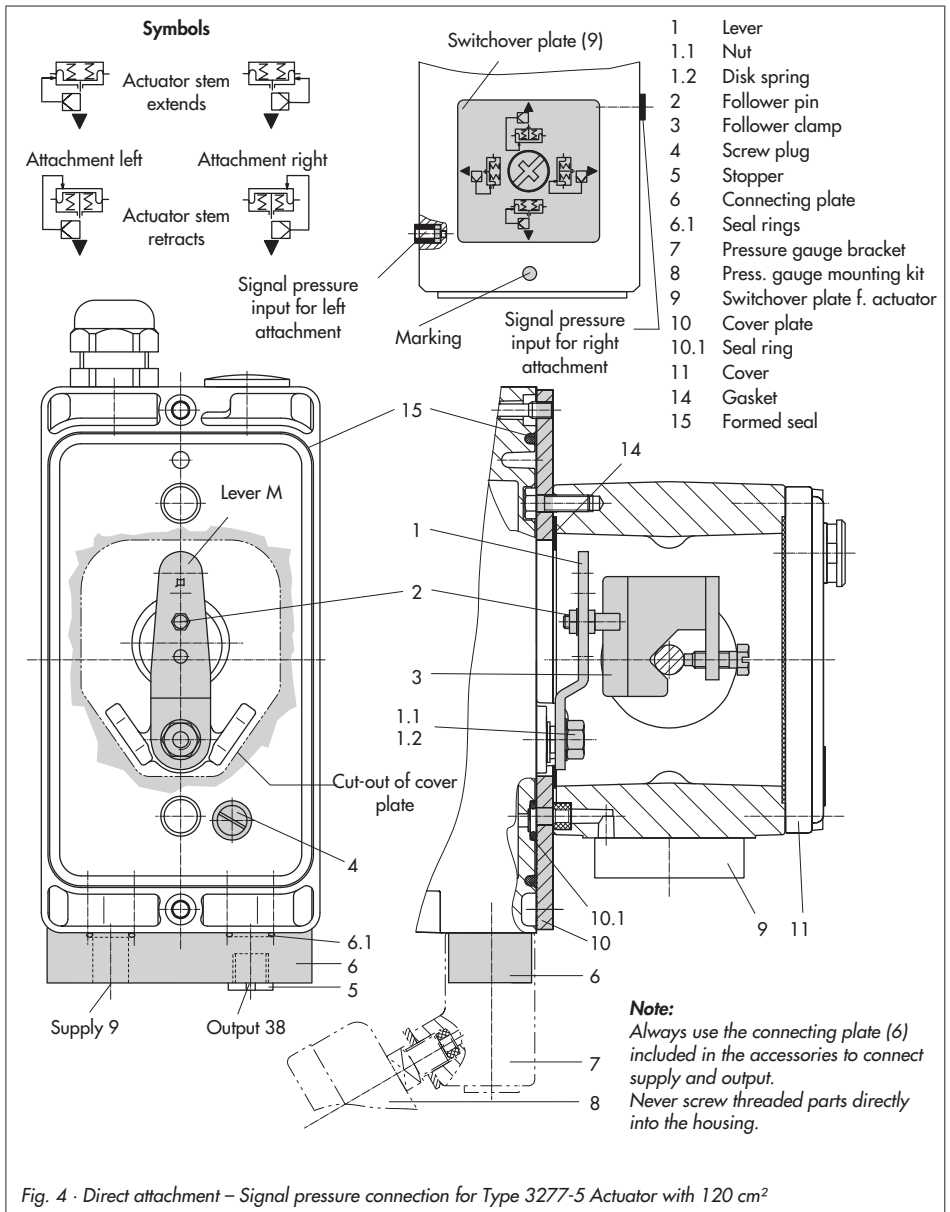

Fig. 4 · Direct attachment – Signal pressure connection for Type 3277-5 Actuator with 120 cm2
1. Mount connecting plate (6) or pressure gauge bracket (7) with pressure gauges onto the positioner, making sure both seal rings (6.1) are seated properly.
2. Remove screw plug (4) on the back of the positioner and close the signal pressure output (38) on the connecting plate (6) or on the pressure gauge bracket (7) with the stopper (5) included in the accessories.
3. Place follower clamp (3) on the actuator stem, align and screw tight so that the mounting screw is located in the groove of the actuator stem.
4. Mount cover plate (10) with narrow side of the cut-out opening (Fig. 4, on the left) pointing towards the signal pressure connection. Make sure that the bonded